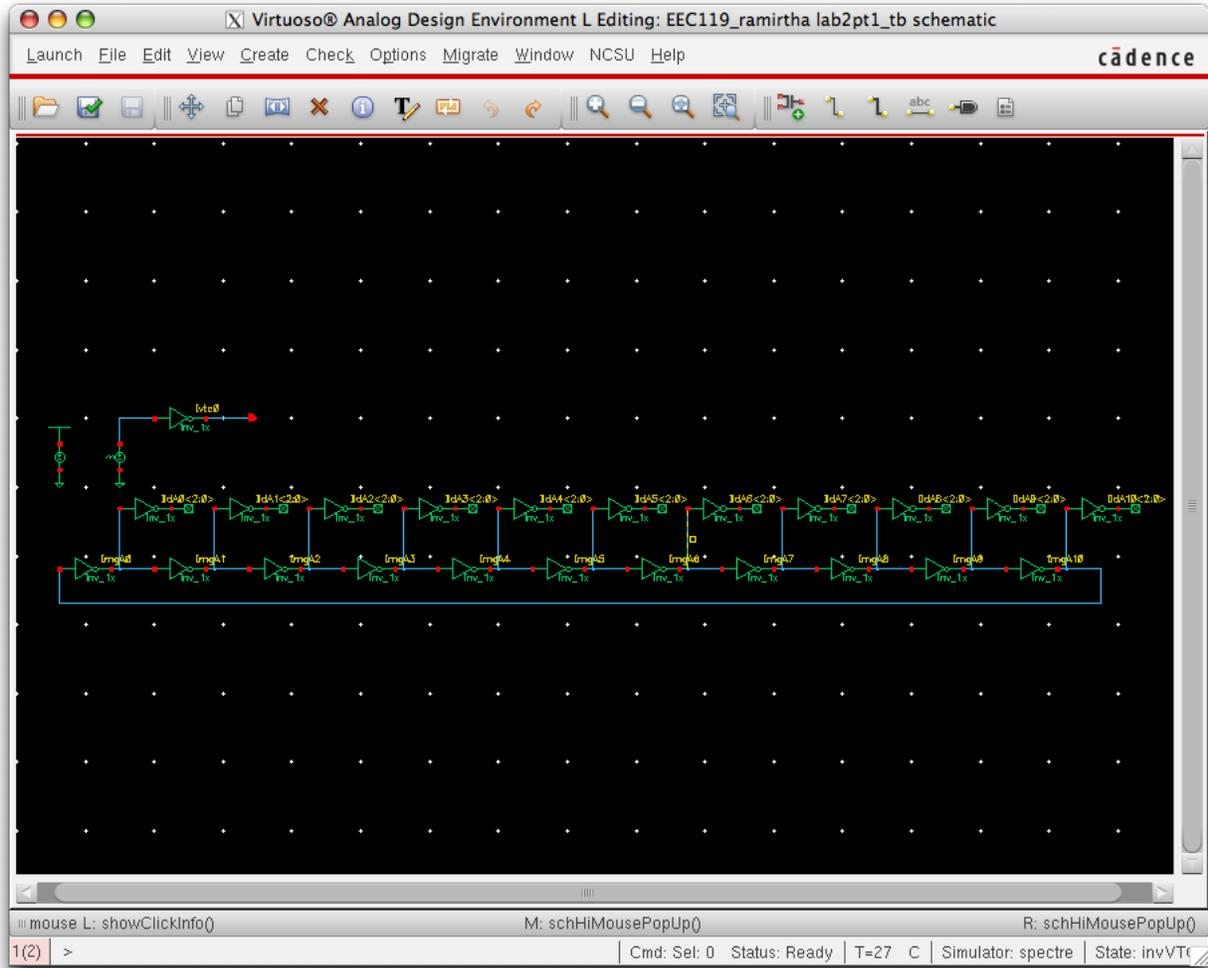

Figure 3: Inverter ring oscillator testbench schematic.
**Part 2 Ring Oscillators** Ring oscillators made up of inverters or other gates are a common test structure used to characterize a process for things like gate delay. Edit your `lab2pt1_tb` cell schematic to instantiate a fanout-of-4 (FO4) 11-stage ring oscillator as shown in Figure 3. Note that there are several inverters whose outputs are floating. These inverters are there to present a standard load which has been empirically determined to be typical of logic gates in many integrated circuits. A simple way to implement this load is to use a *vector* of instances (sometimes called *iterated*) instances. Editing the Instance Name property of the inverter to include the syntax `<yy:xx>` will create a number of copies of that cell when the circuit netlist is created. In this way, a schematic can be made less cluttered while still capturing all the testbench information for simulation. In order to avoid floating output warnings, `noConn` cells were added to the outputs of the load inverters so that the schematic checker knows the outputs were intentionally left disconnected. The `noConn` instances have to be vectors as well to avoid connectivity warnings.